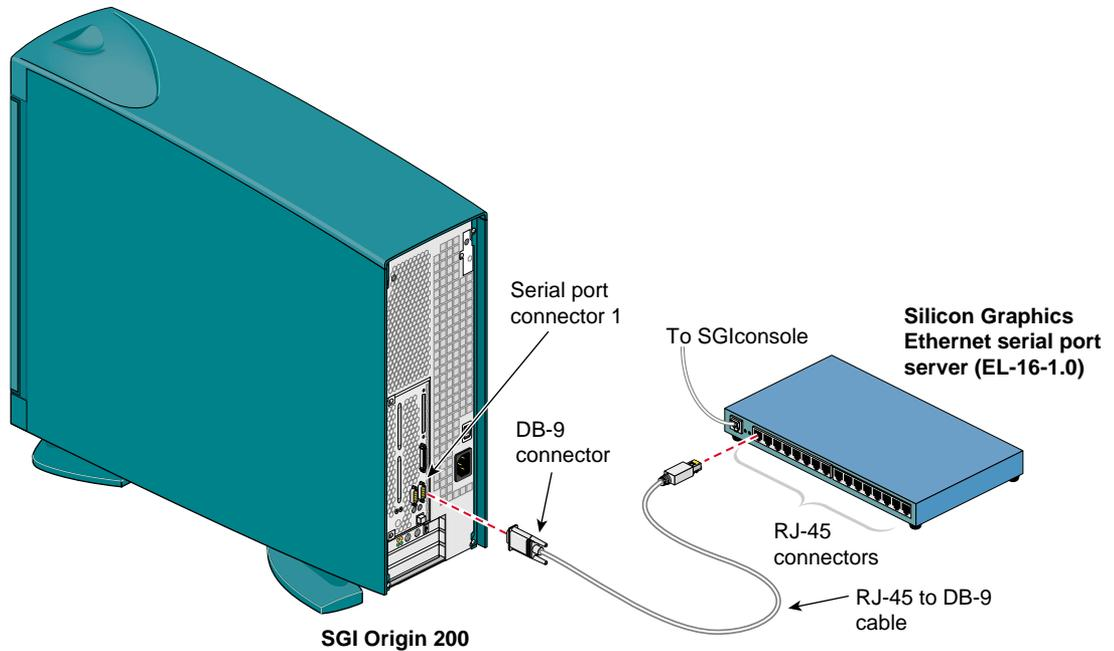

Figure 2-6 Connecting the Serial Port Server to the SGI Origin 200 Server Serial Port Connector
5. Connect the RJ-45 connector end of the RJ-45 to DB-9 cable to one of the RJ-45 serial jacks on the Silicon Graphics EL serial port server. Connect the DB-9 connector to the Origin 200 server's serial port jack labeled "Serial Port Connector 1." See Figure 2-6.